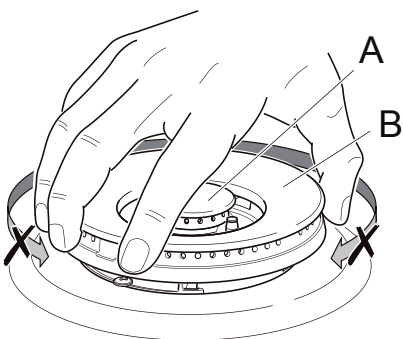

Figure 16f
- Then position the cap “A” and the ring “B” (see fig. 16f).